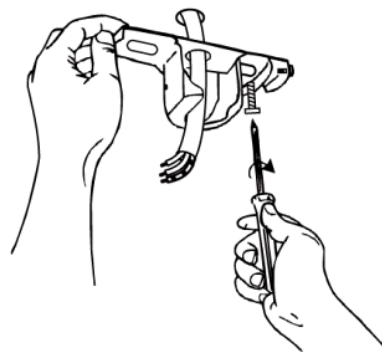

Figure 9 – Ceiling Plate
3. Align the slotted holes (refer to Figure 9) in the ceiling plate with the pilot holes in the wood support structure. Note: The insulation pads should be flush against the ceiling. For angled ceilings: Be sure to orient the ceiling plate so that the arrows on the ceiling plate are pointing towards the ceiling peak.